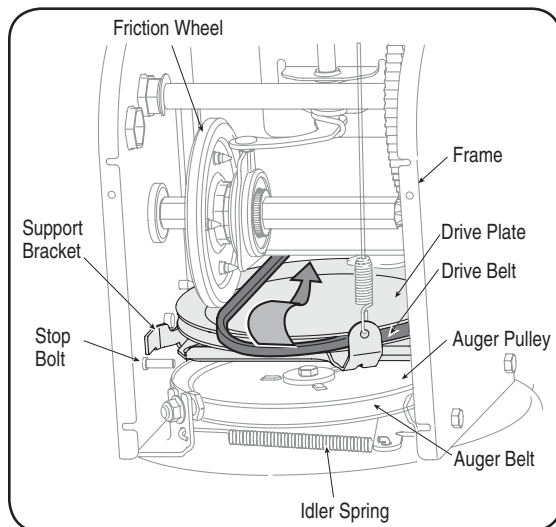

Figure 6-10
5. Back out the stop bolt until the support bracket rests on the auger pulley. See Figure 6-10.
6. Slip the drive belt off the pulley and between friction wheel and drive plate. See Figure 6-10.